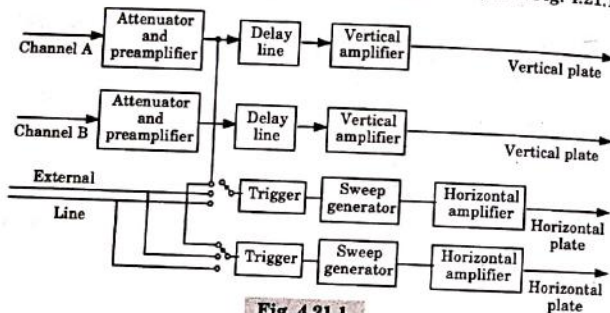
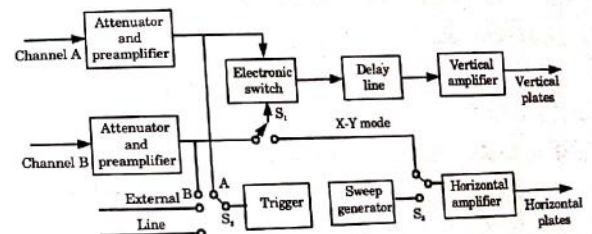

Fig. 4.21.1.
Fig. 4.21.2.
- The dual beam oscilloscope has two separate electron beams, and therefore two completely separate vertical channels, as in Fig. 4.21.1.
- The two channels may have a common time base system, as in Fig. 4.21.1, or they may have independent time base circuits, as in Fig. 4.21.2.
- The alternate mode is illustrated in Fig. 4.21.2.